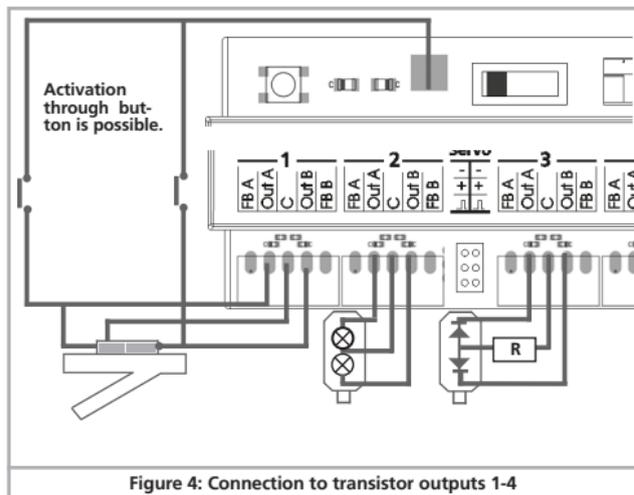

Figure 4: Connection to transistor outputs 1-4
Figure 4 shows how to wire output 1:
**i** As shown in Figure 4 the double-coil turnouts can be switched with two optional push buttons without a digital command. The needed ground solder pad is not available on all SwitchPilot surfaces.